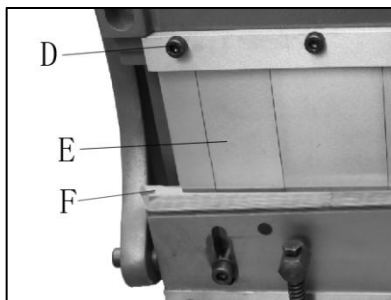

Figure 5
1. Place a strip of wood (F, Figure 5) on bottom die, the full length of die.
3. Loosen screws (D) using 6mm hex key.